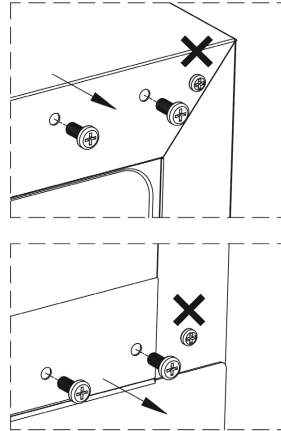

Fig.1
2. Remove the screws from the upper and lower left corners of the unit using a Philips screwdriver. (**Fig.1**)
3. Pull out the shelf horizontally (**Fig. 1**) until the wooden nail move to the groove in the interior cabinet (**Fig. 2**).